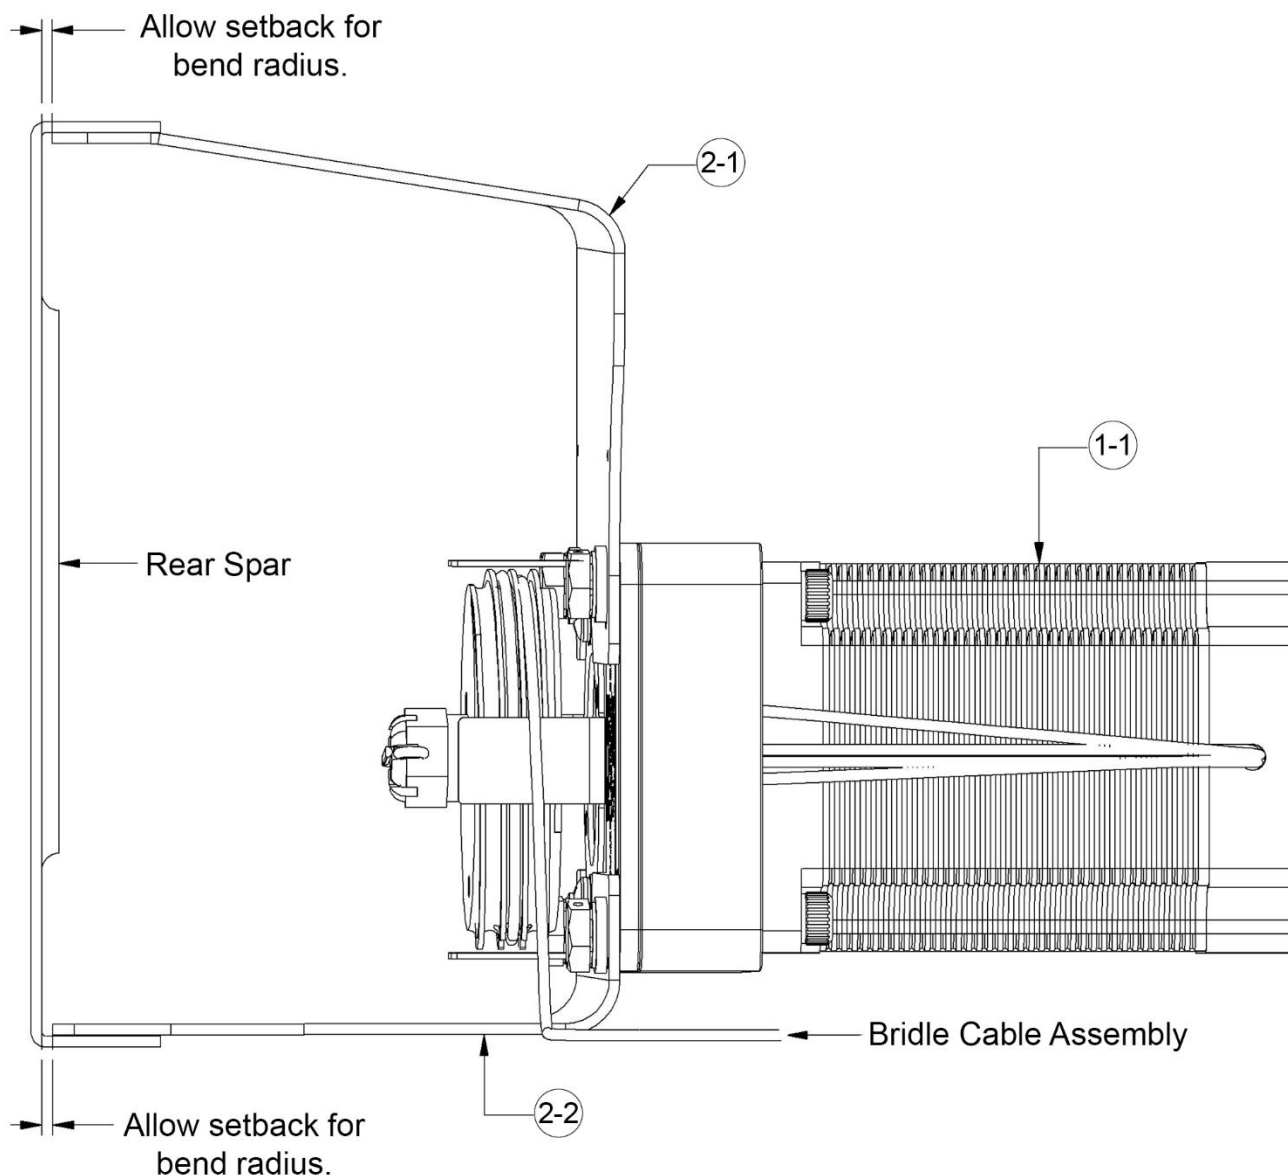

Figure 10: Allowing Setback for Bend Radii on Rear Spar Flanges
11. Allow setback for bend radii on rear spar flanges, as shown in Figure 10.